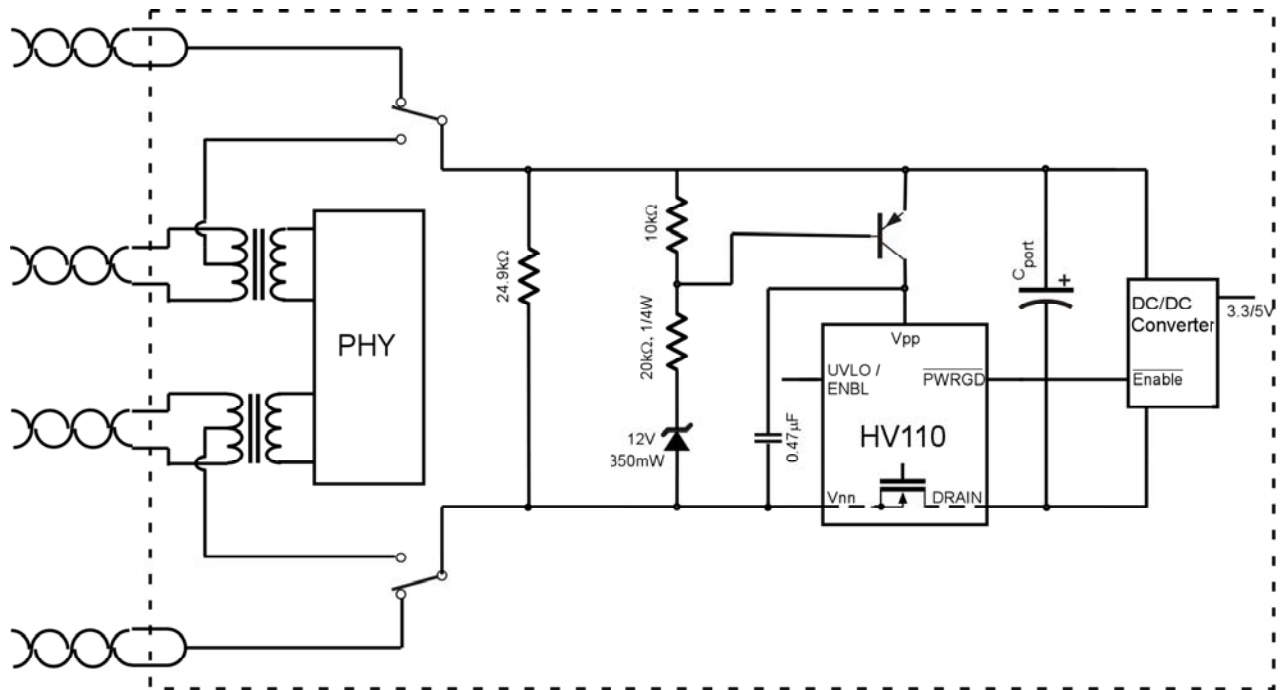

Figure 10. Powering HV110 using a PNP transistor instead of a zener
- Meets the turn-on and turn-off thresholds for the PD device & has a built-in 8V hysteresis (with PNP transistor as shown in Figure 10).
Because of the zener diode connected to VPP pin, it will be necessary to modify the internal UVLO thresholds by using two external resistances as shown in Figures 1, 9 and 11, to provide the UVLO turn-off and turn-on voltages to meet the IEEE 802.3af standard. These two resistors perform dual functions, UVLO voltage adjustments and also the Signature Detection function (i.e. represent the 25k impedance). Figure 10 shows a different implementation using a PNP transistor which allows the use of the HV110's internal UV circuit.
Figure 10 shows the modified circuit. In the Discovery stage, the input voltage is less than 10V. This causes the zener to be reverse biased and hence there is no base current to the PNP transistor. Once the input voltage increases beyond 12V, the zener starts conducting, which provides a base current path for the PNP transistor. The transistor goes into the saturation region, essentially pulling  $V_{pp}$  to the rail.